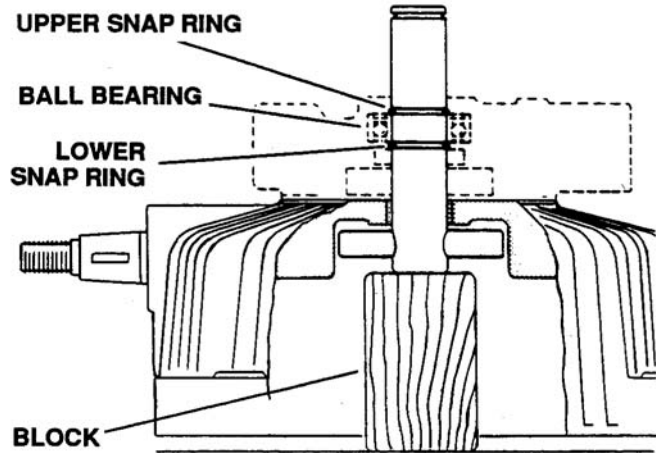

Figure 6-130. Ball Bearing Installation
- On charge pumps with ball bearings, install the lower snap ring. With the cover assembly separated from the body and the input shaft properly supported, press the input shaft bearing into position against the lower snap ring. Install the upper snap ring against the inner bearing race. See Figure 6-130.